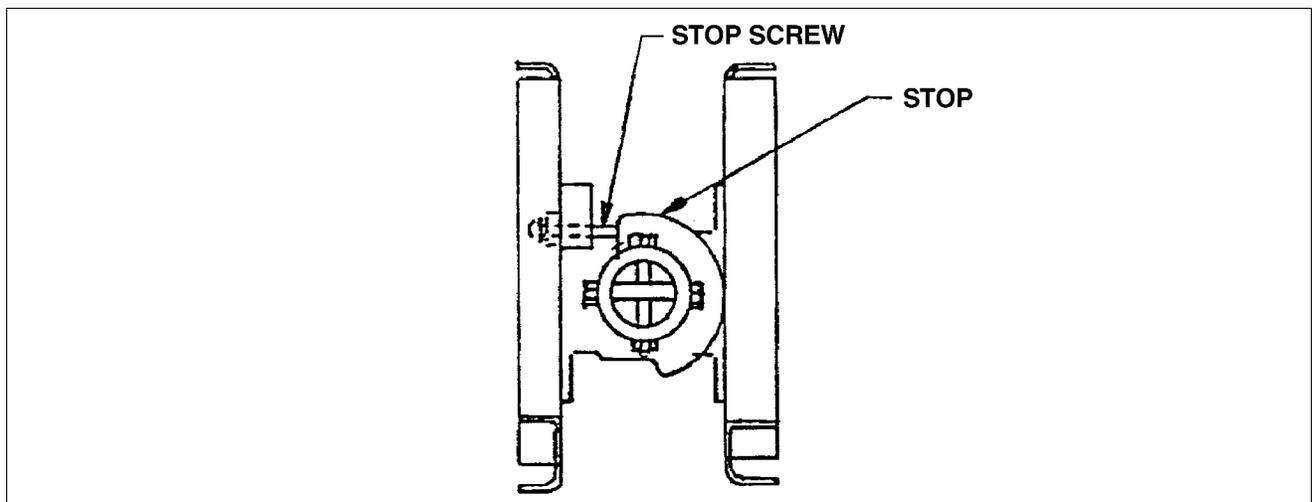

Figure 27-30. Stop Screws Adjustment
- (10) Adjust left and right stop screws so that contact is just made with stop. Tighten jam nuts. (Refer to Figure 27-30).